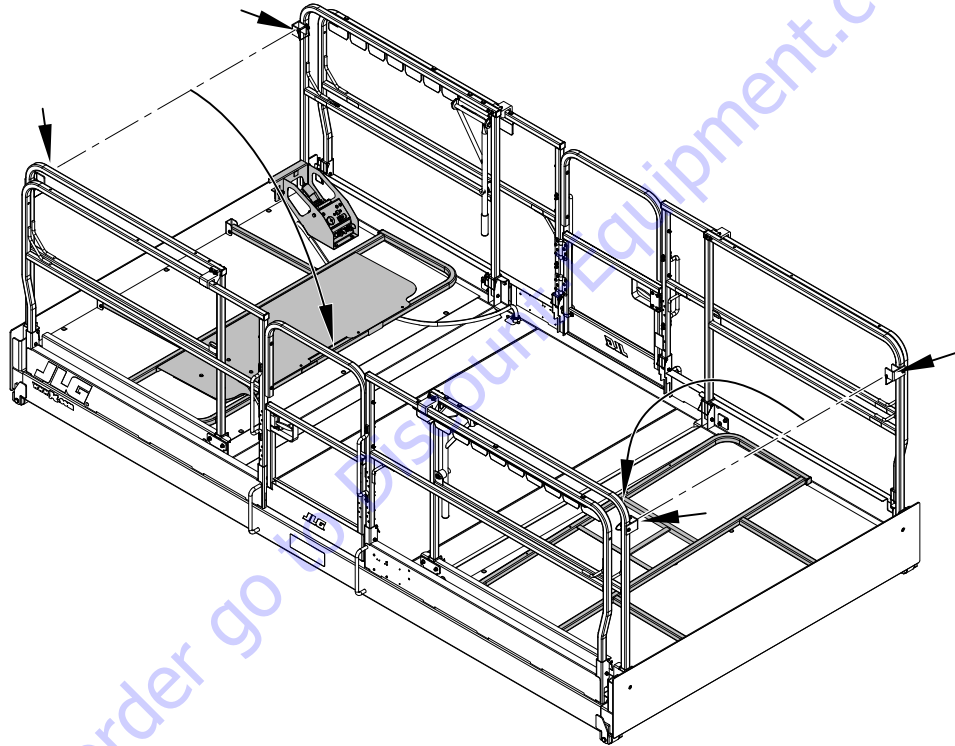
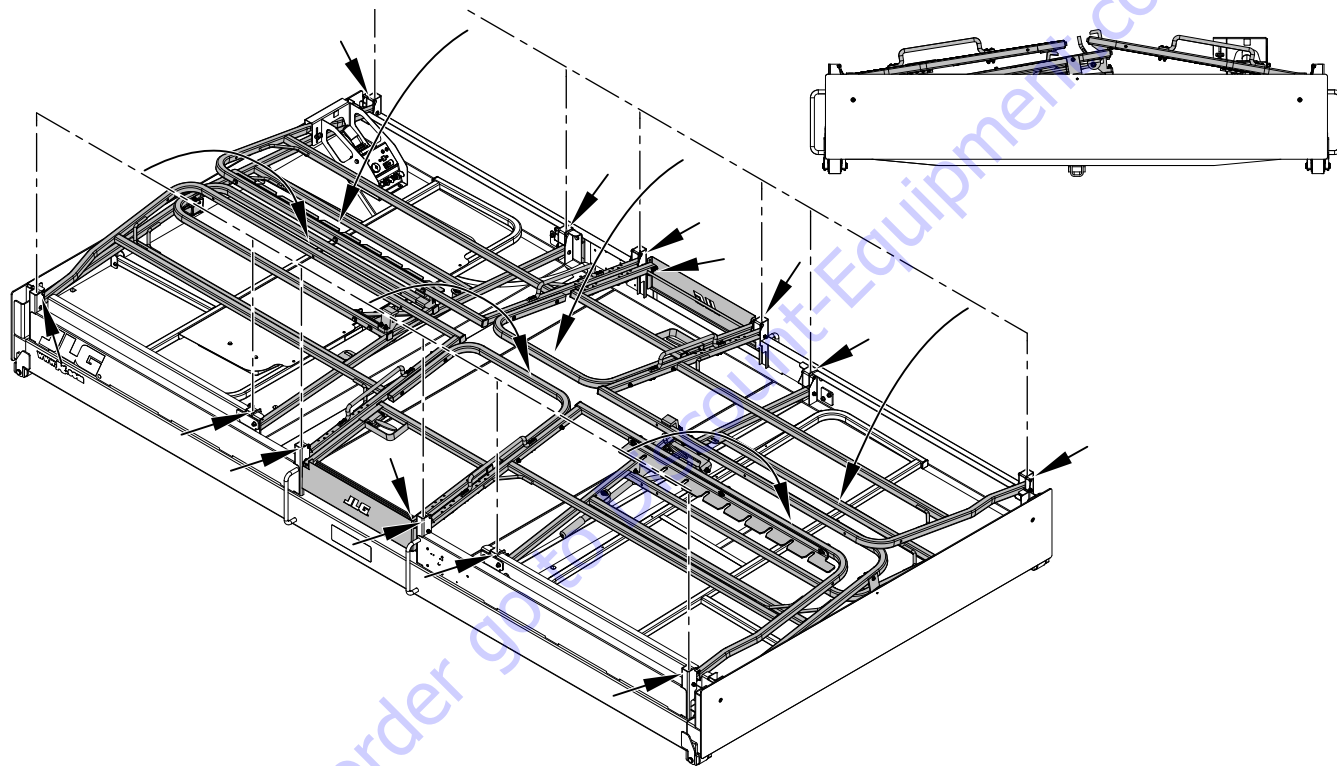

Figure 3-8. Platform End Rails - Fold Down Sequence and Rail Pin Locations
Figure 3-9. Platform Side Rails - Fold Down Sequence and Rail Pin Locations
Refer to Figure 3.8 and Figure 3.9 for fold-down procedure illustrations.
2. Pull platform end rail pins (two pins per end rail, see short arrows in Figure 3-8.) and fold the platform end rails down onto the platform deck.
3. Pull platform extension side rail pins (one per rail set, see short arrows in Figure 3-9.), then fold down extension side rails.
4. Pull main platform side rail pins (four per rail set, see short arrows in Figure 3-9.), then fold down main platform side rails.